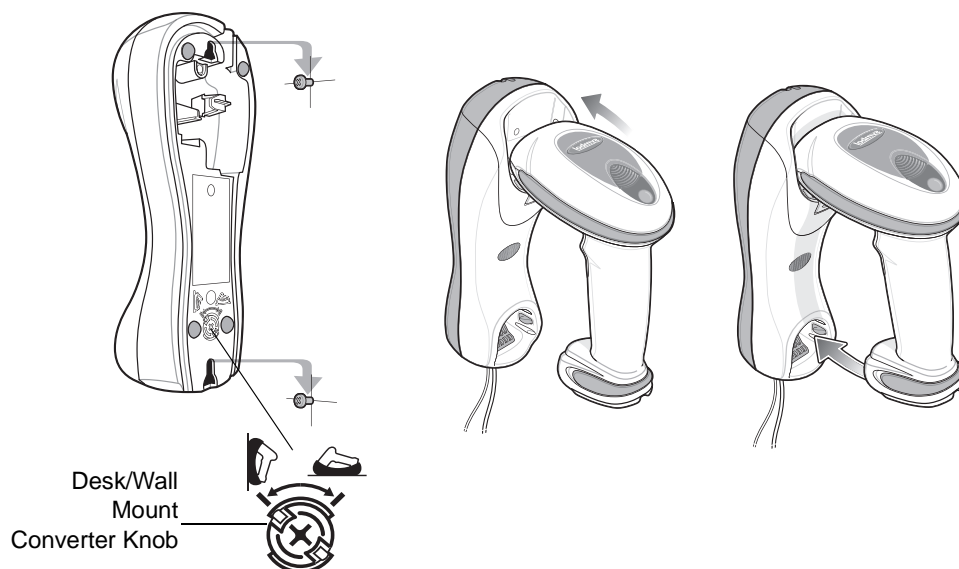

Figure 1-8 Vertical Mount - Inserting the Digital Scanner in the Cradle
3. Ensure the desk/wall mount converter knob is in the position shown in Figure 1-8.